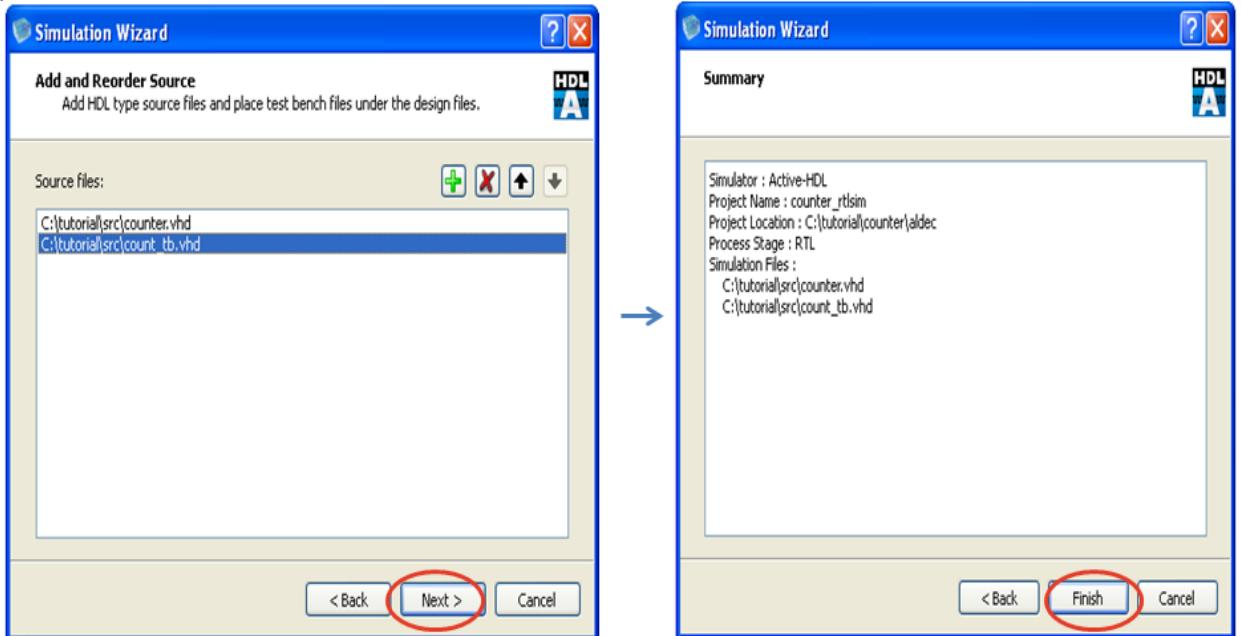

Figure 10-6: Add test bench and Complete Simulation Wizard.
4. Add “count_tb.vhd” test bench file **and click on “Next”**. Click on “Finish” in the summary page as shown in Figure 10-6.